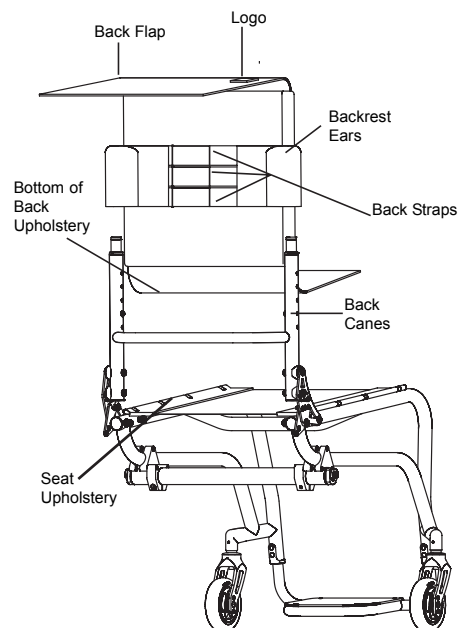

Figure 57
- Lift the back flap to expose the back straps/backrest ears (which are adjustable using Velcro). See Figure 57.